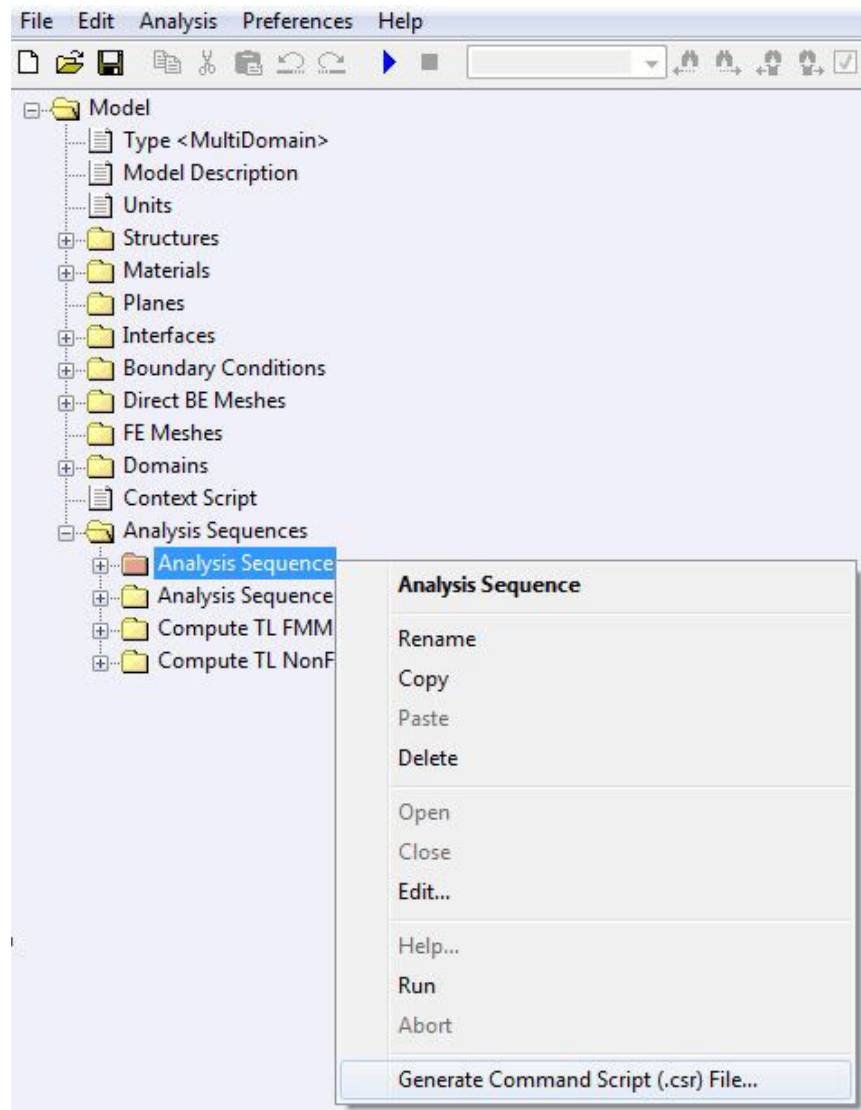

Figure 7.6 Generate command script.
- **Generate Command Script (.csr) File.** Generates a Coustyx script .csr file. Figure 7.6. This script file can be used to run the analysis from the command prompt using the following command: